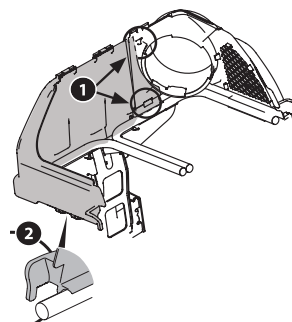

Figure 7
3. Slide the left grass catcher cover (731-123508) over the upper chute support and the hanger assembly. Carefully latch the two tabs in place into the front of the upper chute support, see (1) in Figure 7. Fit the snaps onto the left hanger rail support. See (2) in Figure 7.